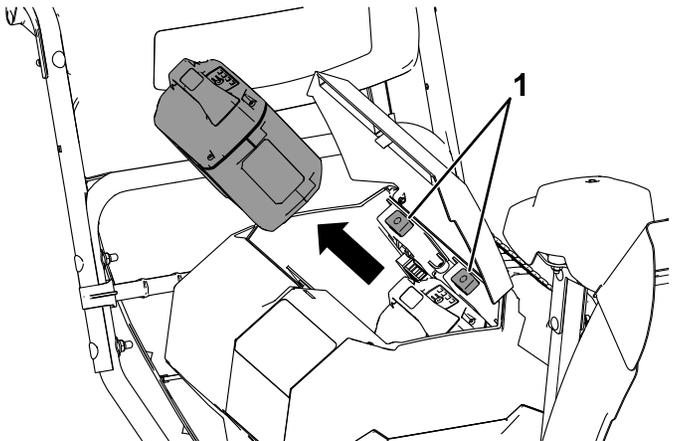

Figure 27
2. Press the battery pack-latch to release the battery pack and remove the battery pack (Figure 27).